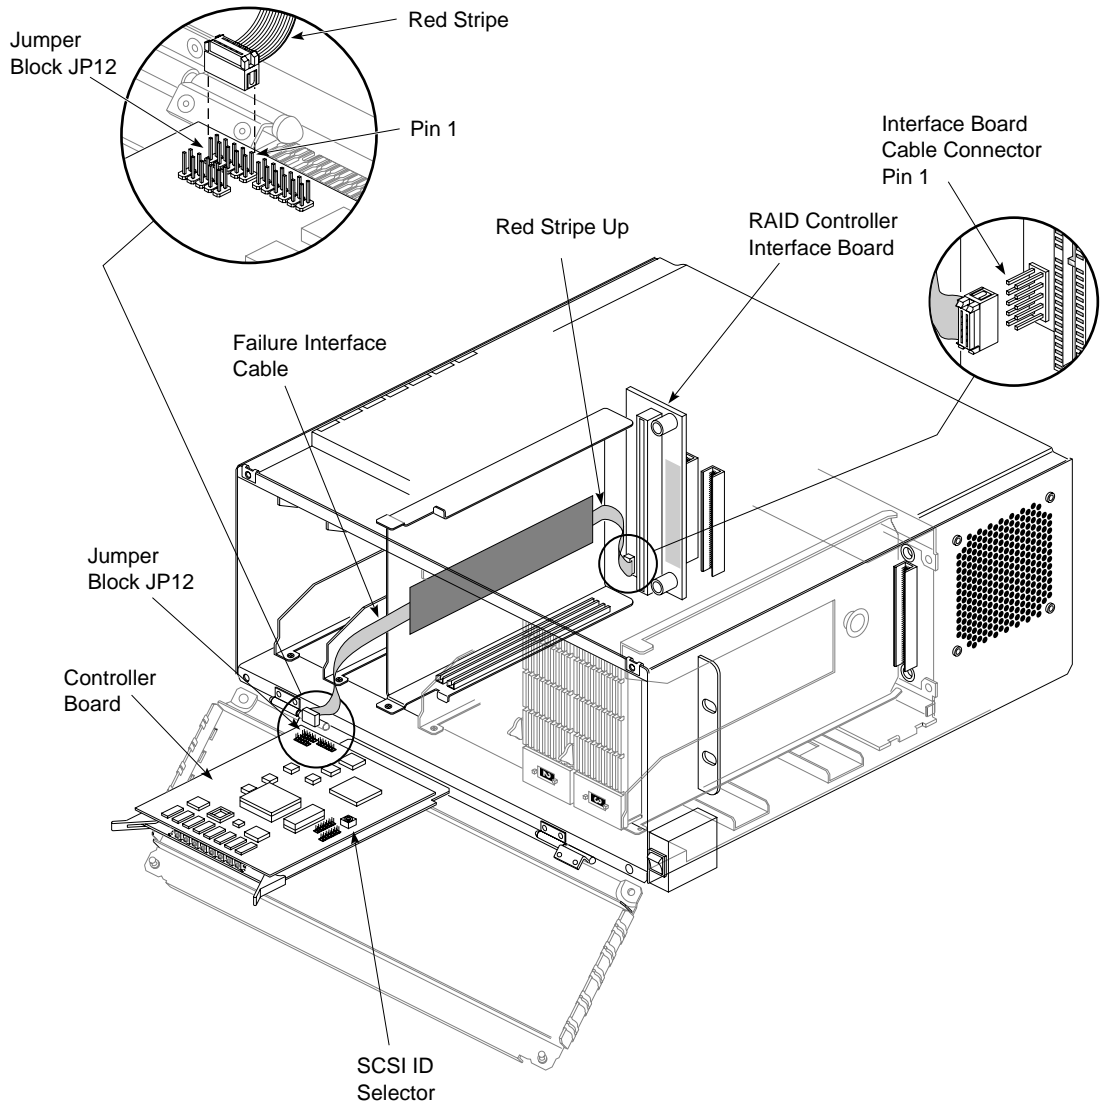

Figure 3-6 Removing the Controller
4. Locate and unplug the disk-down LED cable connected to the RAID controller board at plug location JP12. See Figure 3-6.
2. Plug one end of the disk-down LED cable into jumper JP12 on the lower left portion of the board (furthest from the LEDs). The red stripe on the cable indicates which end of the connector has pin 1. The other end of the cable should already be plugged into the controller interface board on the backplane. See Figure 3-6.